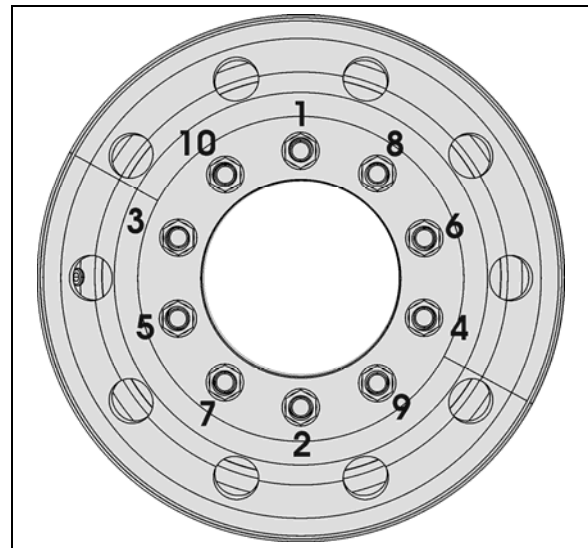

FIGURE 2: TIGHTENING SEQUENCE
It is also important that wheel stud nuts be tightened alternately on opposite sides of the wheel. Refer to Figure 2 for the suggested tightening sequence.
Tighten stud nuts progressively as shown in Figure 2. The final tightening should be done with a torque wrench. Tighten stud nuts to 450 - 500 lbf-ft (610 - 680 Nm) for steel wheels.
- Screw in the hex stud nuts (refer to Figure 2 for sequence) so that wheel will position itself concentrically with hub. This is important, otherwise wheel may be eccentric with hub and will not run straight. In this initial step, slightly tighten the nuts to correctly position the wheel;
- Tighten stud nuts progressively as shown in Figure 2. The final tightening should be done with a torque wrench. Tighten stud nuts to 450 - 500 lbf-ft (610 - 680 Nm) for all steel wheel.
With inner and outer wheels installed, tighten the stud nuts progressively as shown in Figure 2. The final tightening should be done with a torque
Repeat for each of the 10 "hex stud nuts" according to the tightening sequence in Figure 2.
Using a calibrated torque wrench, tighten wheel nuts to 450 - 500 lbf-ft (610 - 680 Nm) of torque. Do not use power tools or long bars for tightening. Tighten wheel nuts alternately as shown in Figure 2.